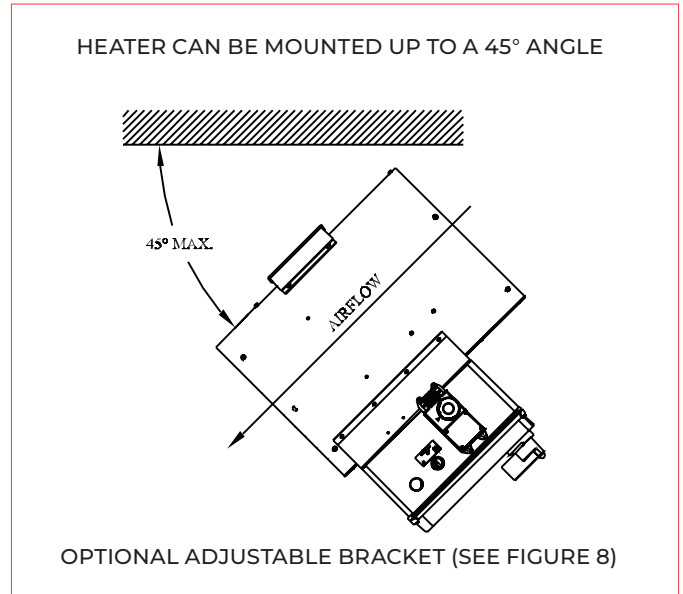

Figure 2
4. Install the bracket (see Figure 2 - 5 for installation instructions).
6. For maximum tilt angles, see Figure 2. For maximum mounting height, see general specifications table on page 13.